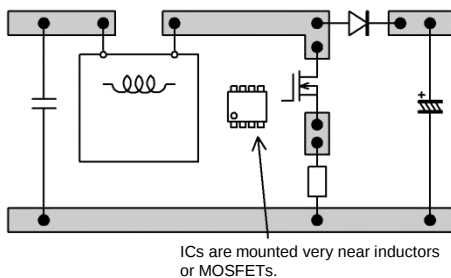

Fig. 37: Bad arrangement example (2)
- ICs are mounted right next to inductors, MOSFETs, or diodes. (Fig. 37)